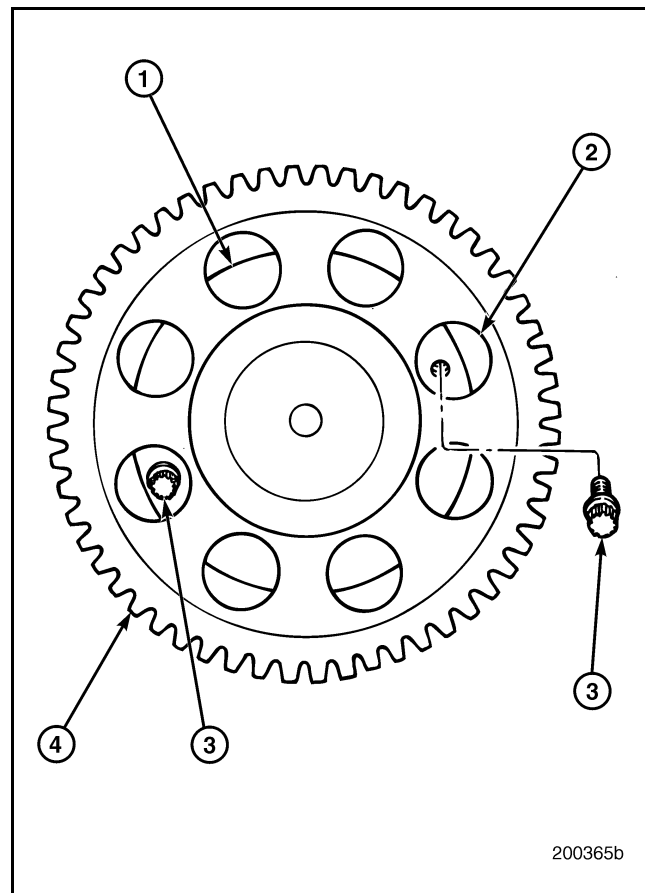

Figure 177 — Camshaft Thrust Washer Capscrews
- Remove the two 12-point capscrews that retain the camshaft thrust washer. The camshaft may have to be rotated slightly to make the capscrews accessible through openings in the camshaft drive gear (Figure 177).